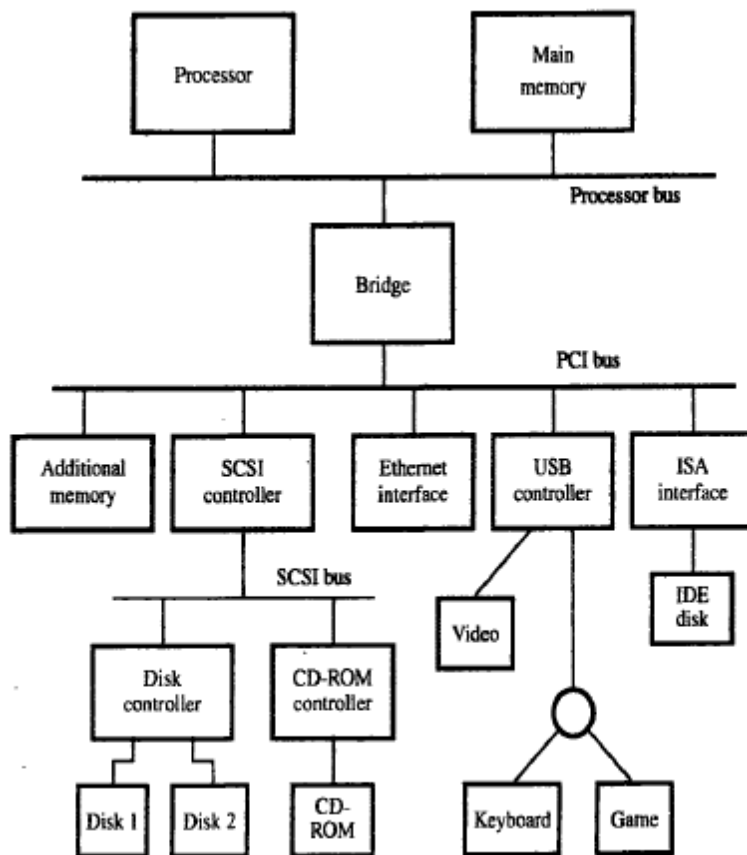

Figure 4.38 An example of a computer system using different interface standards.
- Let us look in to Processor bus and Peripheral Component Interconnect (PCI) bus (Figure 4.38).